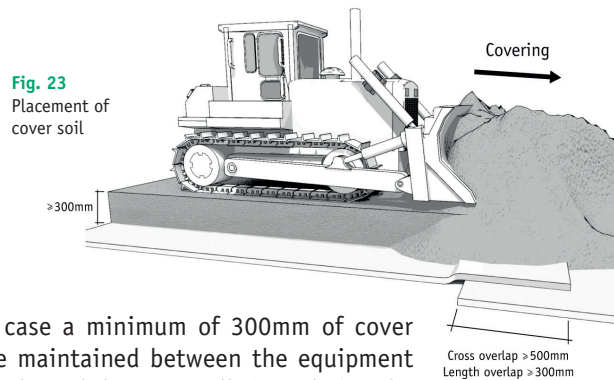

Fig. 23
In any case a minimum of 300mm of cover shall be maintained between the equipment tires/tracks and the GCL at all times during the covering process (fig. 23).
19.7 Soil cover should be placed on Bentofix® by carefully pushing the soil on top of the GCL (figure 23), without causing any damage and in a manner that prevents the soil from entering the GCL overlap zones.